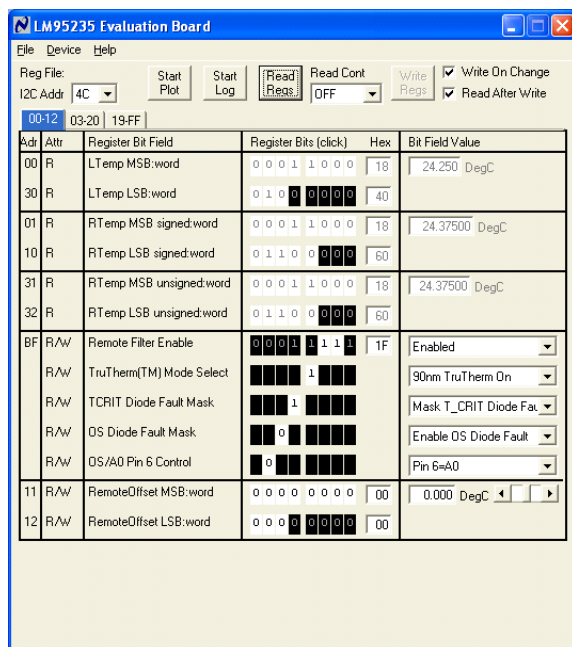

Figure 6
10. The next screen will look like Figure 6 below.